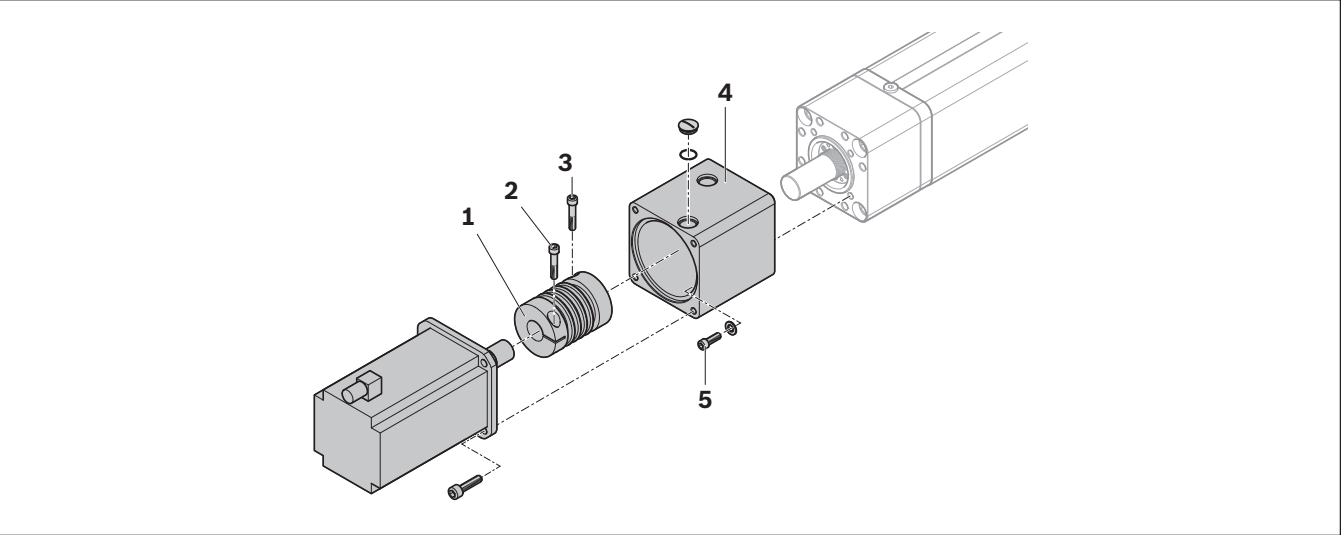

Fig. 16: Mounting the flange with coupling
6. Insert the motor into the locating feature of flange and coupling ➔ Fig. 16 on page 20.
8. Tighten the fixing screw (2) of the coupling on the motor side with the tightening torque M_A ➔ Table 12 on page 21.
9. If necessary for tightening the second screw (3), release the motor brake and move the piston rod so that the screw journal turns.